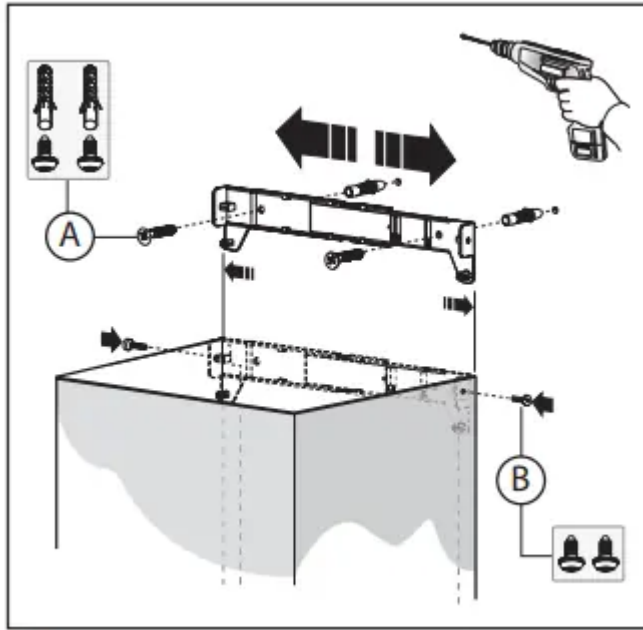

Fig.3
- Fixing the decorative telescopic flue:** Arrange the electrical power supply within the dimensions of the decorative flue. If your appliance is to be installed in the ducting version or in the version with external motor, prepare the air exhaust opening. Adjust the width of the support bracket of the upper flue (Fig.3). Then fix it to the ceiling using the screws **A** (Fig.3) in such a way that it is in line with your hood and respecting the distance from the ceiling indicated in Fig.2. Connect the flange **C** to the air exhaust hole using a connection pipe (Fig.4). Insert the upper flue into the lower flue and rest above the frame. Extract the upper flue up to the bracket and fix it with the screws **B** (Fig.3). To transform the hood from a ducting version into a filtering version, ask your dealer for the charcoal filters and follow the installation instructions.